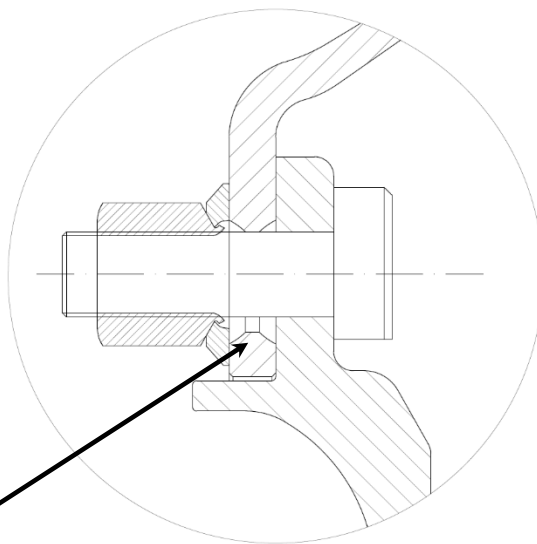

Fig. 4 Example sketch of misalignment with flat nuts on stud-centered wheels (not centered stud inside the bolt hole)
2.3.1. The use of flat nuts on stud-centered wheels is not allowed. The primary reason is that this configuration does not provide adequate centering support. Specifically, the clearance between the studs and stud holes, as well as the gap between the hub and the wheel center bore, leads to a loss of proper alignment. Consequently, the effective contact area between the flat nuts and the disc surface is reduced, which may result in torque loss, stud failures, and potential cracking of the wheel. This situation is illustrated in Figure 4.